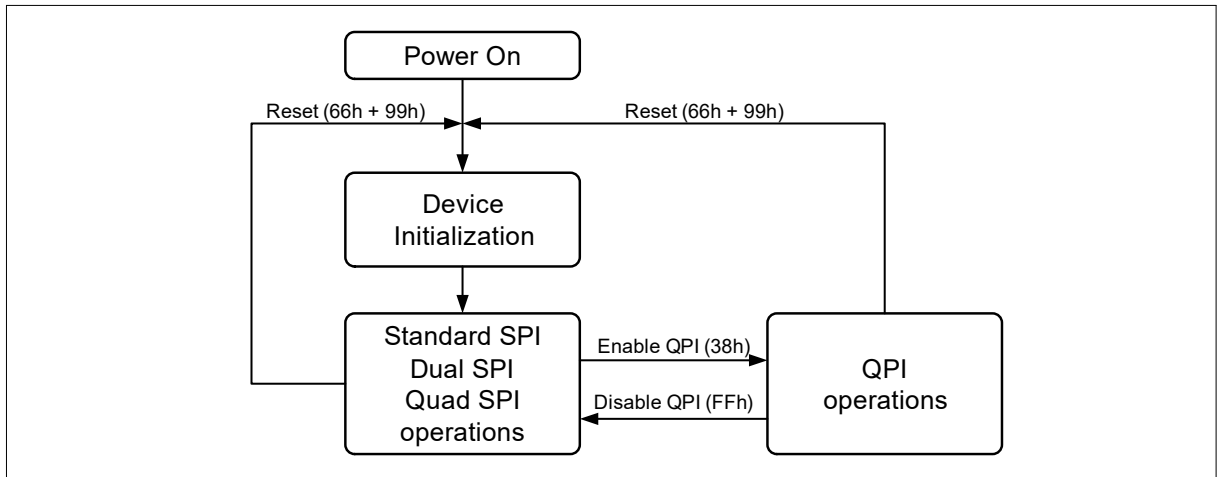

Figure 2 FM25W16A Serial Flash Memory Operation Diagram
The FM25W16A supports Quad Peripheral Interface (QPI) operations only when the device is switched from Standard/Dual/Quad SPI mode to QPI mode using the “Enable QPI (38h)” instruction. The typical SPI protocol requires that the byte-long instruction code being shifted into the device only via DI pin in eight serial clocks. The QPI mode utilizes all four DQ pins to input the instruction code, thus only two serial clocks are required. This can significantly reduce the SPI instruction overhead and improve system performance in an XIP environment. Standard/Dual/Quad SPI mode and QPI mode are exclusive. Only one mode can be active at any given time. “Enable QPI (38h)” and “Disable QPI (FFh)” instructions are used to switch between these two modes. Upon power-up or after a software reset using “Reset (99h)” instruction, the default state of the device is Standard/Dual/Quad SPI mode. To enable QPI mode, the non-volatile Quad Enable bit (QE) in Status Register-2 is required to be set. When using QPI instructions, the DI and DO pins become bidirectional DQ₀ and DQ₁, and the WP# and HOLD# pins become DQ₂ and DQ₃ respectively. See Figure 2 for the device operation modes.